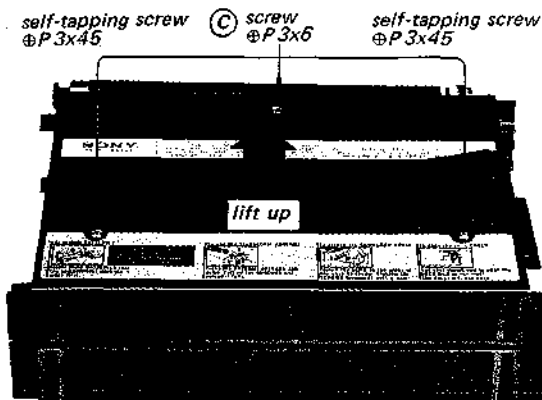

Fig. 2-3.
1. Remove the three screws labeled (C) in Fig. 2-3.